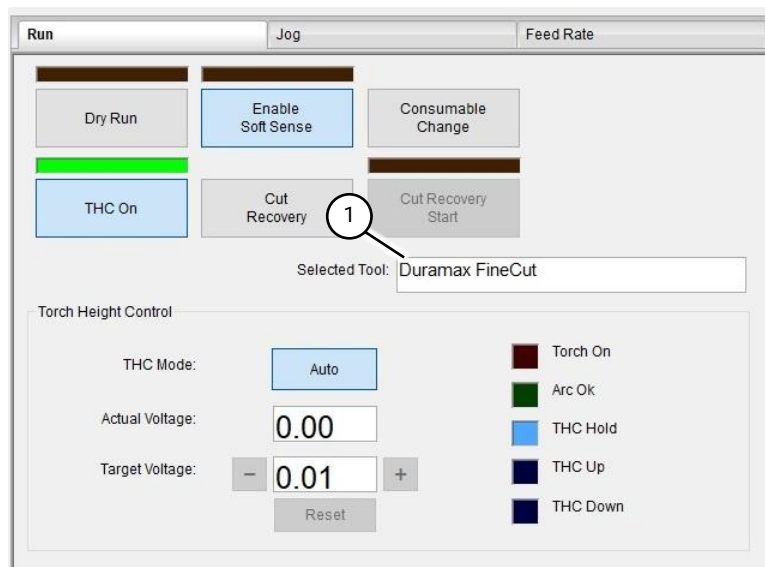

Fig 84 Tool Information pane
1. The Run tab shows the tool selected (Fig 84 (1)) by the G-Code file.